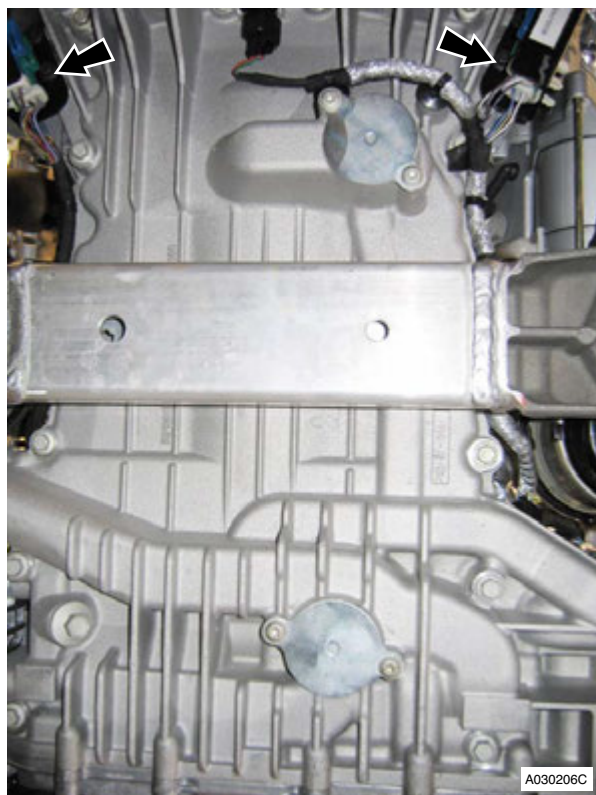

Figure 7
8. Press out alternator mounting bushes (x2) from sump (refer to Figure 7).